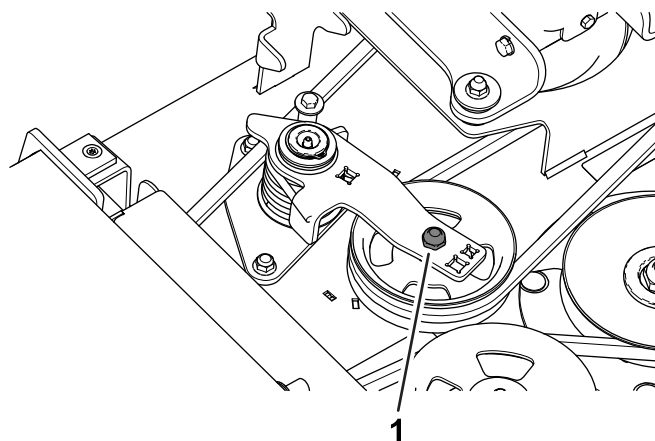

Figure 28
- Using a torque wrench or similar tool, move the idler pulley (Figure 28) away from the drive belt to release the belt tension and allow the belt to be slipped off the gearbox pulley.